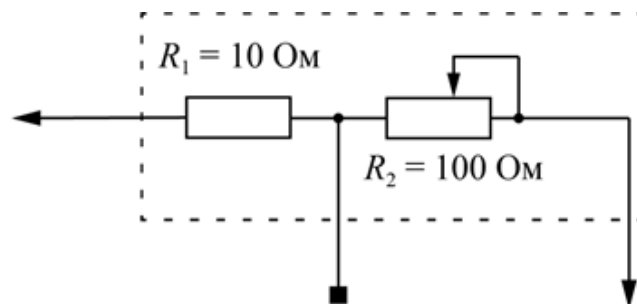

Figure 3: Figure 3.
2. Voltage regulation and measurement unit with three terminals, the diagram of which is shown in Figure 3 (central output – black; potentiometer $R_2 = 100 \Omega$ output – red; current-limiting resistor $R_1 = 10 \Omega$ output – white).